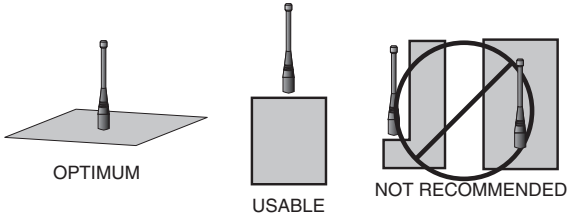

Figure 24: Ground Plane Orientation
2. Optimum performance is obtained from a 1/4- or 1/2-wave straight whip mounted at a right angle to the ground plane (Figure 24). In many cases, this isn't desirable for practical or ergonomic reasons, thus, an alternative antenna style such as a helical, loop or patch may be utilized and the corresponding sacrifice in performance accepted.